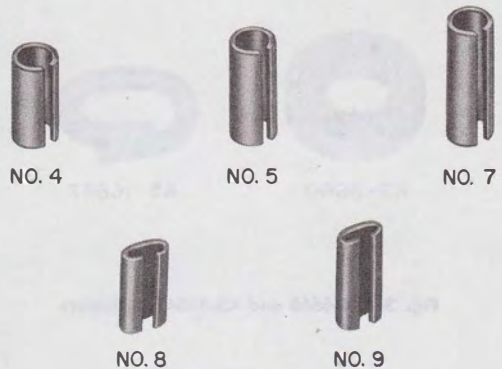

Fig. 8—Terminal Punching Insulators
- Insulator, Punching, Terminal, No. 9, Fig. 8
Terminal Punching Insulators (Fig. 8)